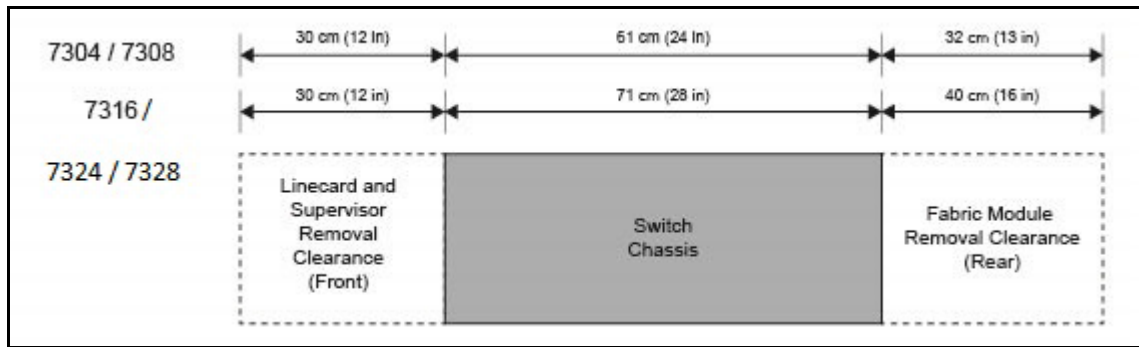

Figure 1: Switch Component Removal Footprint
- **Floor Space:** Install the switch in an area that provides adequate clearance for removing front and rear components. Figure 1 displays switch clearance requirements.
- **Rack Space:** Install the switch in a 19" rack or cabinet. The switch height depends on the switch model, as specified in Table 1. Verify that the linecard and supervisor removal clearance (Figure 1) provide adequate space for the power and data cables that connect to the switch.